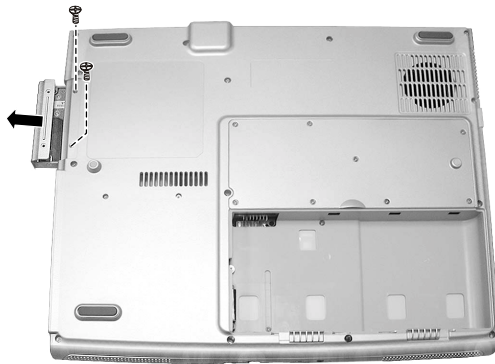

Figure 2-10 Remove HDD module
2. Remove two screw and slide the HDD module out of the compartment. (Figure 2-10)